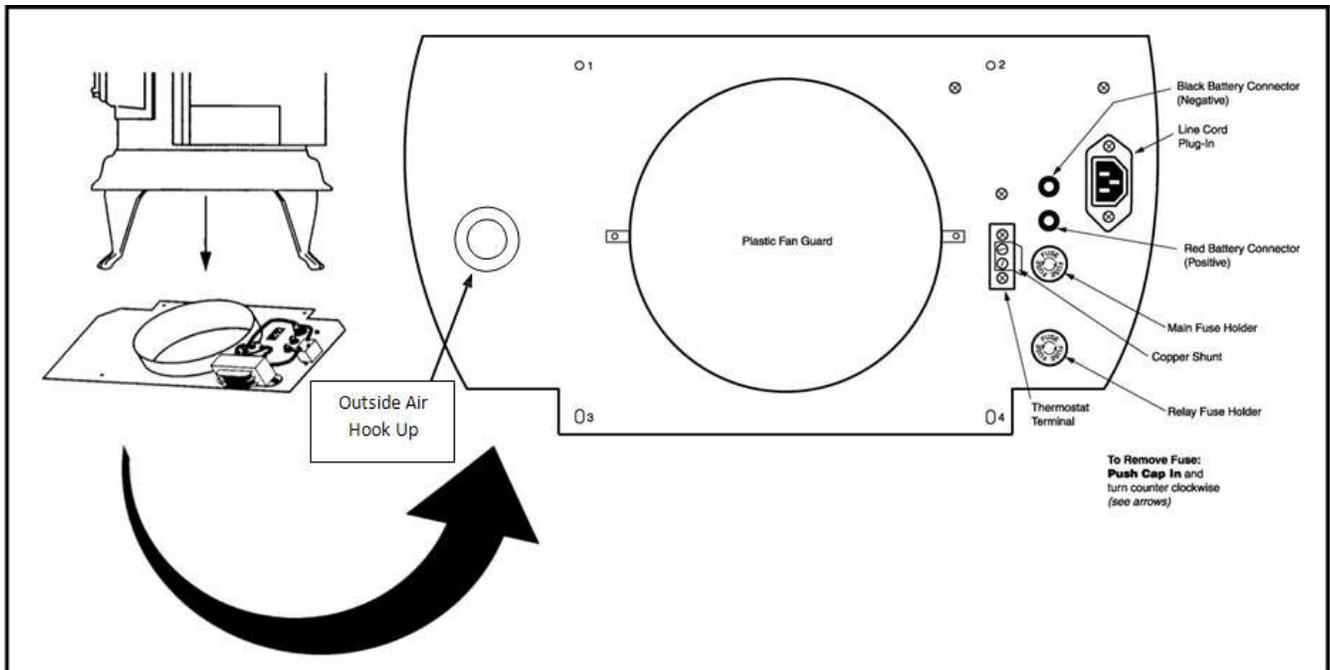

FIGURE 9
2. Locate thermostat terminal at the bottom of the stove (see **FIGURE 9**).
6. Open hopper lid and REMOVE all manuals and materials shipped with stove. Open front door and remove contents. Fill hopper with pellets. The Parlour pellet hopper will hold approximately 40 pounds of pellets. The hopper lid must be closed before operating the unit. The feed motor will not work if the hopper lid is open. Open front door and remove contents. Make certain firepot is seated flush and must sit even in the fire pot holder. Air leakage around the fire pot will create a poor burn (See **FIGURE 9**).
5. Plug the 2 banana plugs (red and black) into the corresponding (red and black) receptacles on the bottom of the stove (See **FIGURE 9**).